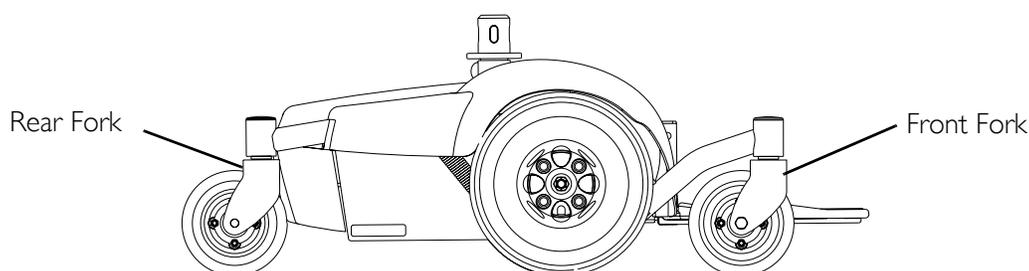

FIGURE 3.3 Lifting/Stairways
NOTE: For this procedure, refer to FIGURE 3.3 on page 22.
5. Ensure that the casters are oriented as shown in FIGURE 3.3.